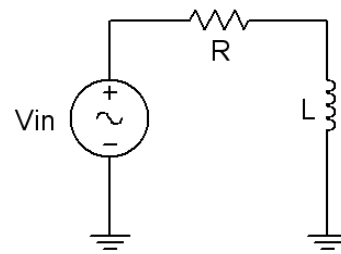

Figure 6.2
4. In general, how would the phasor diagram of Figure 6.2 change if the frequency was lowered?